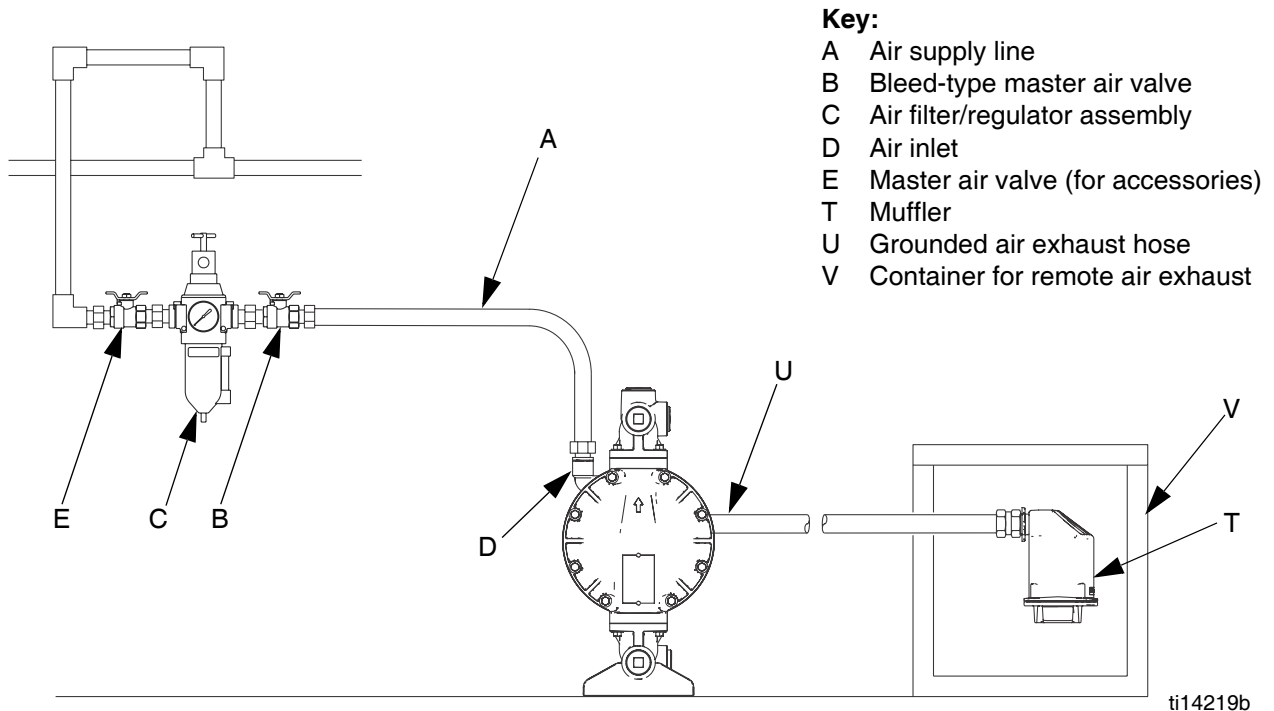

FIG. 3. Vent exhaust air
1. Connect an air supply line to the pump (A, FIG. 3, page 9).
2. Insert 5/32 OD tubing into the push-to-connect fitting on each pilot valve (113).